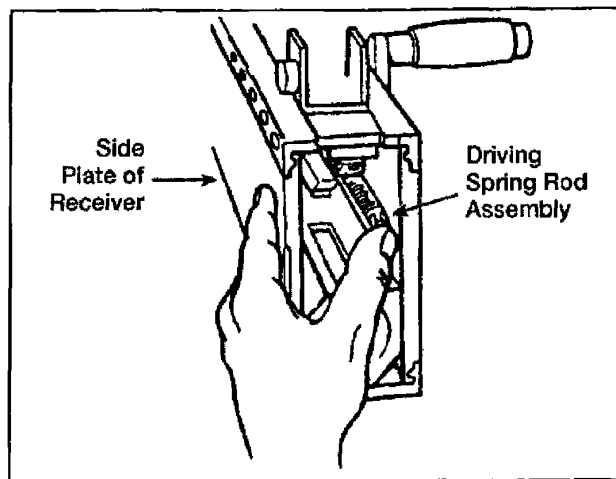

Figure 071-022-0001-41. Installation of the driving spring rod assembly
g. Install backplate assembly (figure 071-022-0001-42).